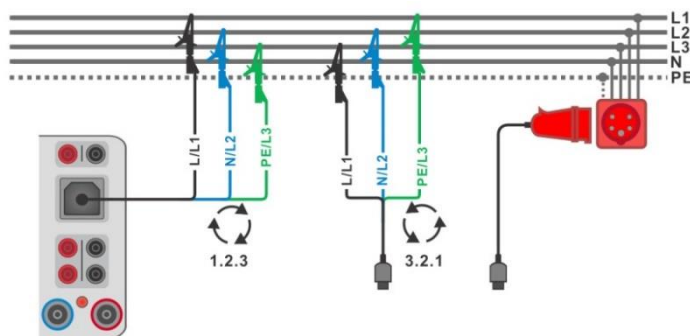
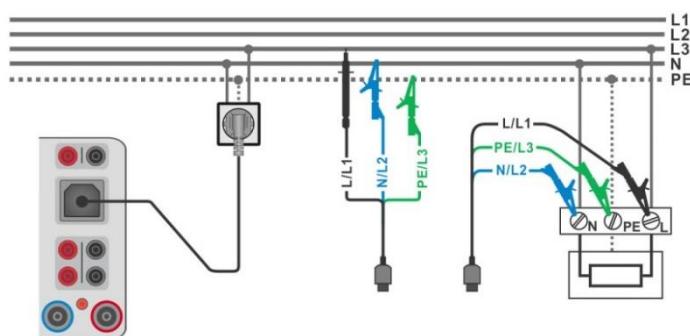

Figure 6.62: Connection of 3-wire test lead and optional adapter in three-phase system
Figure 6.63: Connection of Plug test cable or 3-wire test lead in single-phase system
- ▶ Connect 3-wire test lead or Plug test cable to test object (see **Figure 6.62** and **Figure 6.63**).